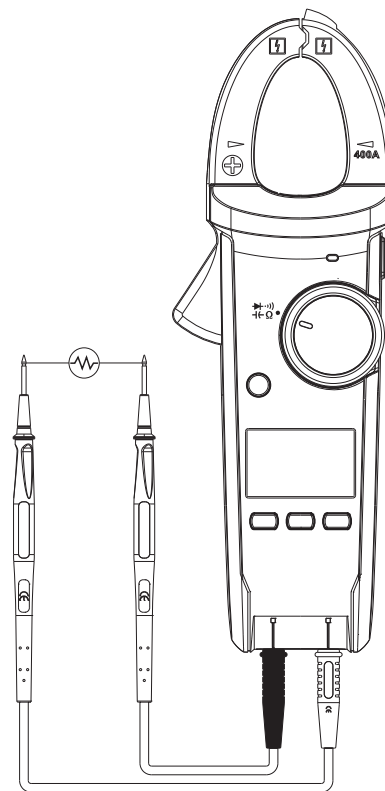

Figure 6
5. Measuring of Resistance (See Figure 6)